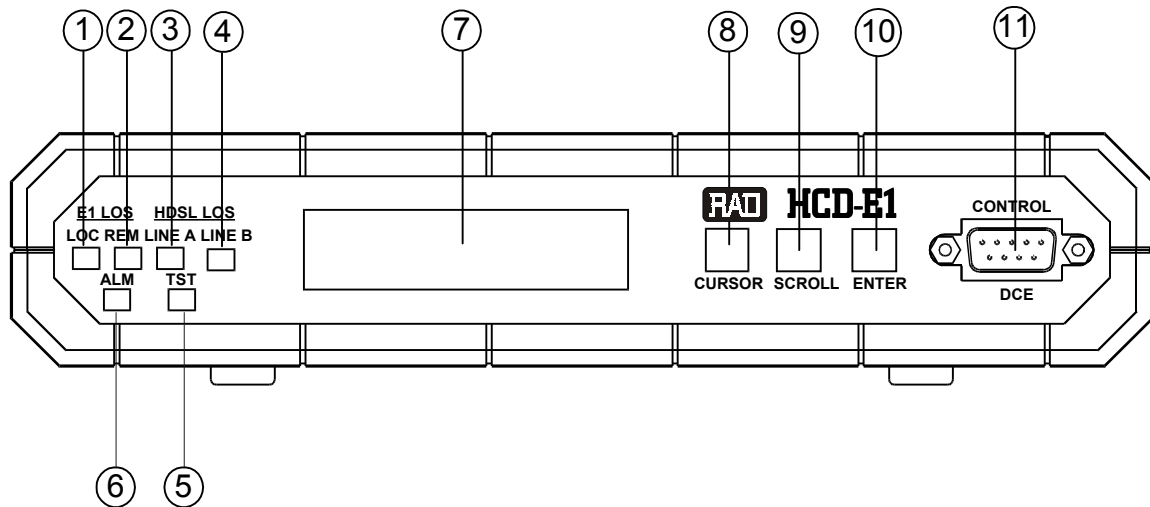

Figure 3-1 HCD-E1 Front Panel
If you are using the control terminal, connect a cable prepared in accordance with *Appendix B* between the control port connector, designated CONTROL DCE (see *Figure 3-1* in Chapter 3), and the control terminal. If the control terminal is connected via modems, use a cross-over cable.
*Figure 3-1* shows the front panel of HCD-E1. *Table 3-1* lists the functions of the HCD-E1 controls, connectors and indicators, located on the HCD-E1 front panel.